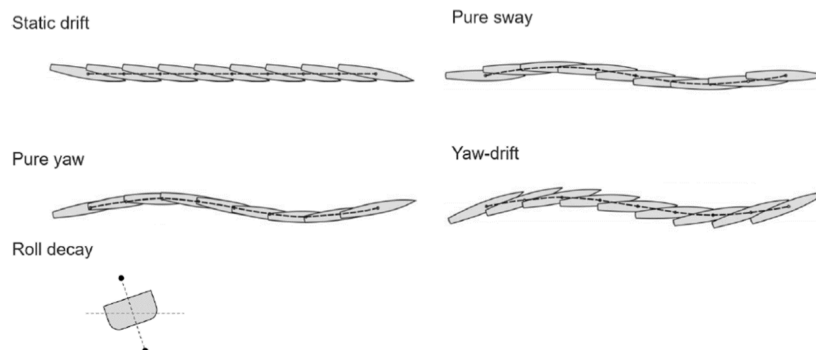

Figure 9: Illustration of available maneuvers in Fidelity Fine Marine
- ▶ **Planar Motion Mechanism Maneuvers:** The planar motion mechanism (PMM) is a technique used to study the hydrodynamic forces and moments acting on a ship or underwater vehicle during various maneuvers. The PMM maneuver involves controlled movements of the vessel in a towing tank or computational simulation to replicate real-world maneuvers such as zigzag tests, turning circles, and other controlled motions. The primary objective is to input CFD-based PMM maneuver results into a maneuvering model. This data is essential for understanding a vessel's maneuverability and stability characteristics. As shown in Figure 9, the available maneuvers include static drift, pure sway, pure yaw, yaw and drift, and roll decay.